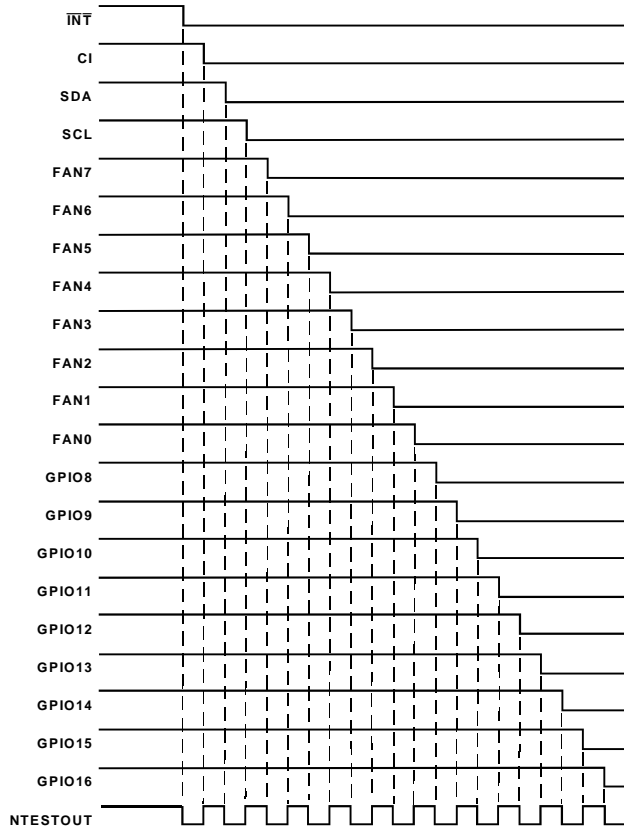

Figure 24. NAND Tree Test taking Inputs Low In Turn
1. Start with all inputs high and take them low in turn, starting with the input furthest from NTEST\_OUT (INT) and working down the tree to the input nearest to NTEST\_OUT (GPIO16/ $\overline{\text{THERM}}$ ). This should give a similar output pattern to Figure 24.